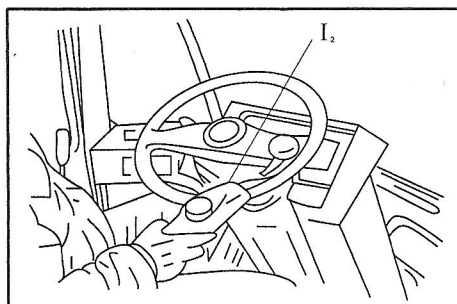

Fig. 05-24
- (1) Install the force-gauge I_2 onto the steering wheel ball-shape handle (See Fig. 05-24).
- (2) Start up the engine.